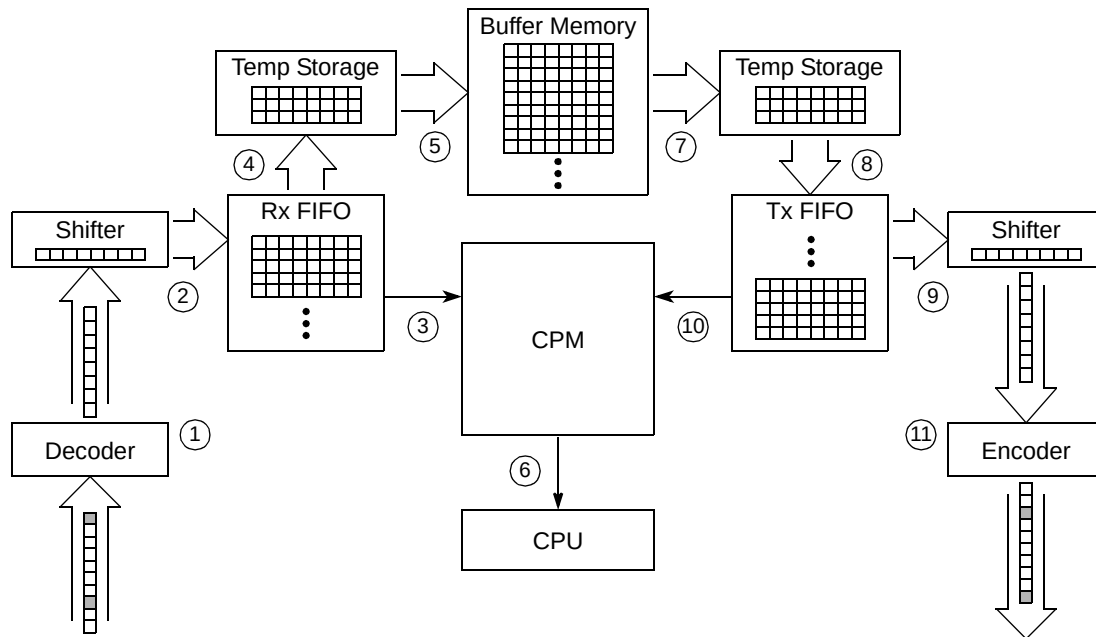

Figure 3. Data Processing in the CPM
In this case, the MPC8560 stores data in buffers that reside in SDRAM on the local bus. These buffers are each referenced by a buffer descriptor (BD), which may reside in one of two tables—Rx-receive and Tx-transmit—typically placed in DPRAM. The following is a general overview of how incoming data is processed by the CPM (refer to Figure 3).